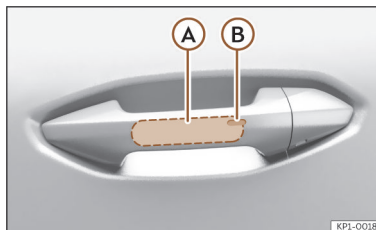

Fig. 75 Door handle: sensor surfaces.
>>> **Fig. 75**
- Touch the sensor surface Ⓑ >>> **Fig. 75** on the outside of the door handle. All turn signals flash once.
- Within 5 seconds, touch the sensor on the outside of the door handle once >>> **Fig. 75** **B**. Do not grip the handle while doing so. This temporarily deactivates the Keyless Access system.